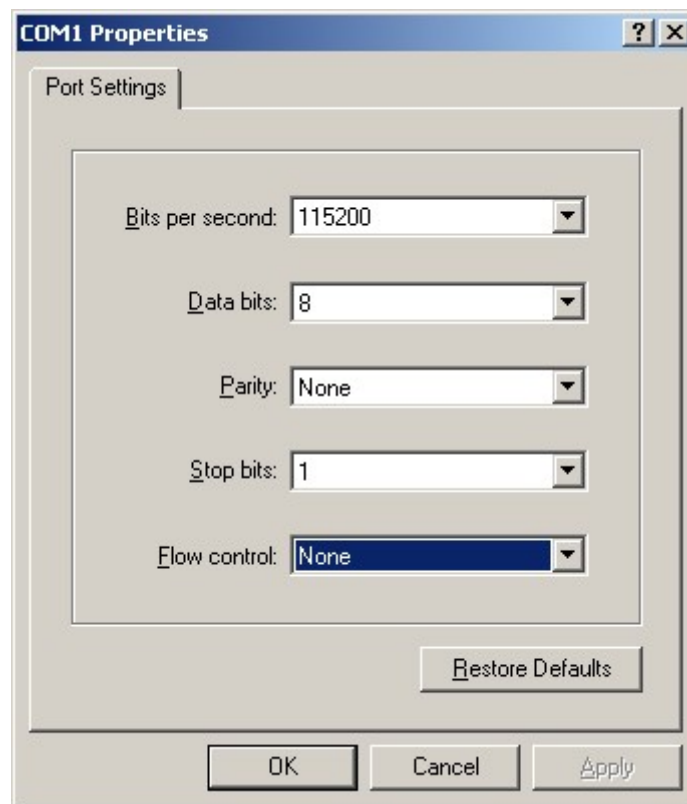

Fig. 3.1.3 Serial ports parameter setup
**Step 3”:** to select the communication port. Select “com1” communication port in Fig3.1.2, press “OK”, the dialogue box as Fig. 3.1.3 will appear.